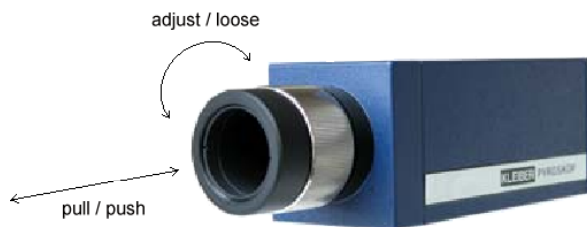

Fig. 10 Setting the vario optic
2. Loosen the ring nut (item 1, Fig. 10) by turning it in a counter-clockwise direction.
3. Move the vario optic (item 2, Fig. 10) forwards and/or backwards, in order to adjust the pyrometer to the required measuring distance.